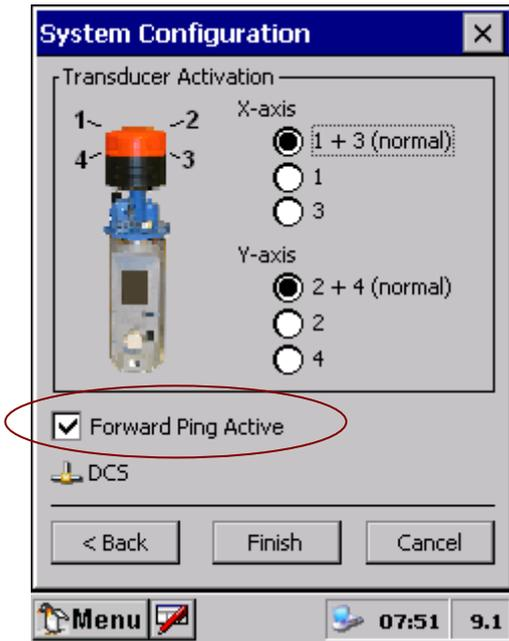

Figure 2-3 Transducer Activation.
Tap *Next* to store the Operational Settings and continue with the *Transducer Activation*, refer Figure 2-3, or *Cancel* to abort.
*The ZPulse DCS transmits pulses in two orthogonal directions simultaneously in time; one along the X-axis, and one along the Y-axis, refer Figure 2-3.*
The ZPulse DCS sends out a selected number of Pings (600, 300, 150, 100, 75 or 50 Pings) during each recording interval. The default Ping setting from the factory is 300p e.g. 300 Pings per interval. The active transducer on both the X- and Y- axis (refer Figure 2-3) transmits the selected number of Pings.